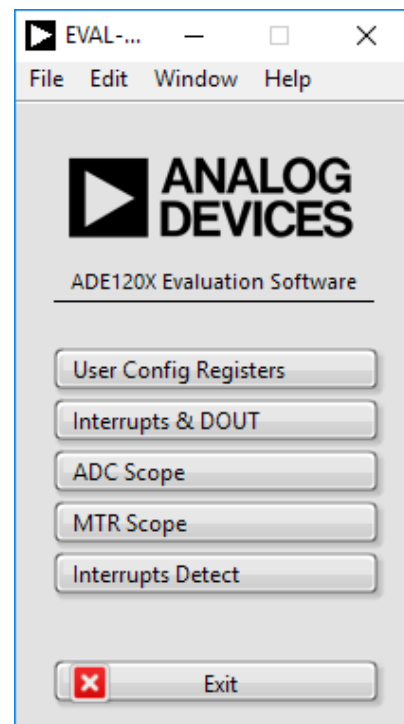
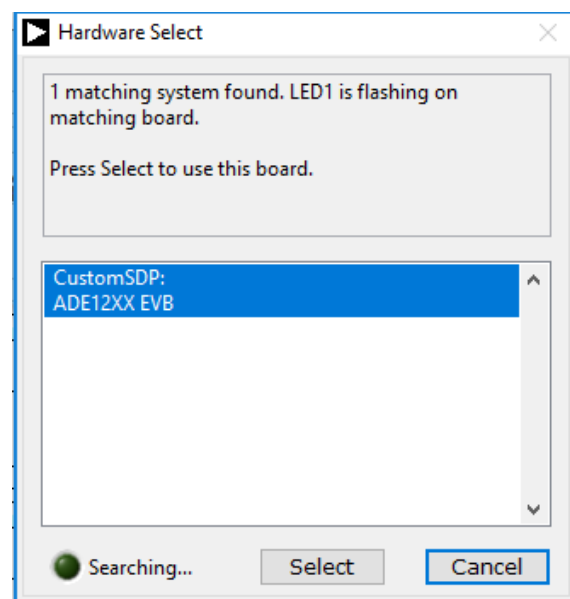
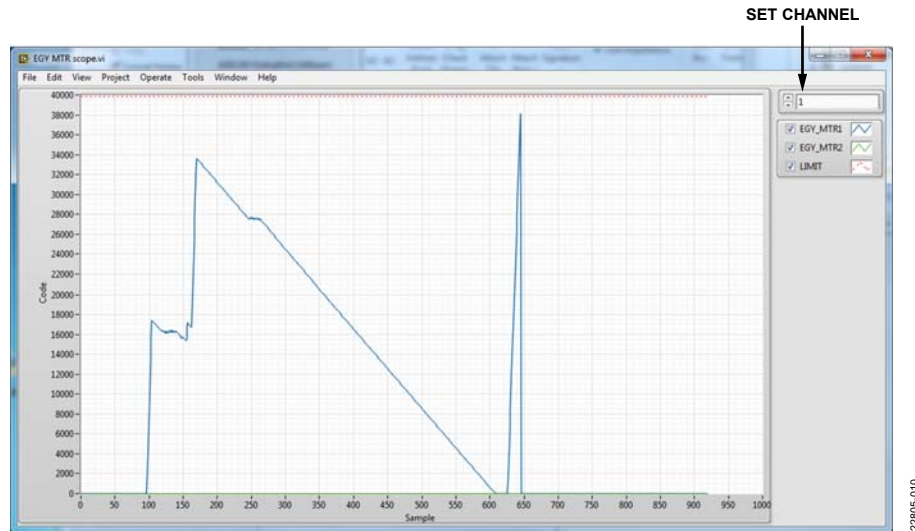
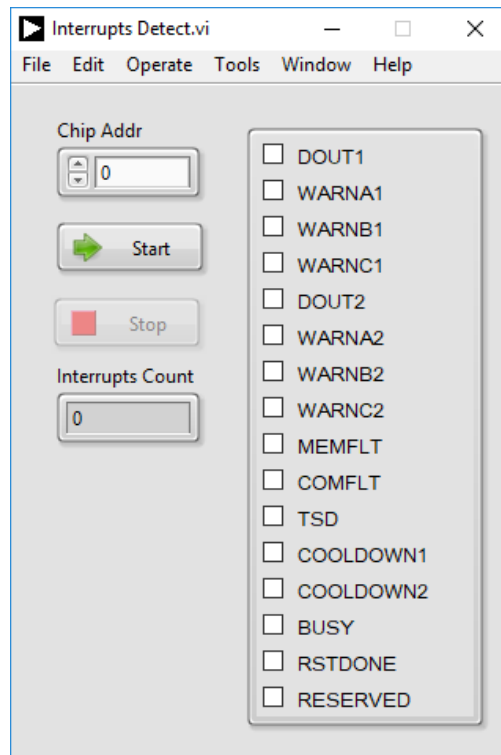

Figure 3. EVAL-ADE120xEBZ Evaluation Software Main Window
Figure 4. Hardware Select Window
Figure 10. EGY MTR Scope Window
Figure 11. Interrupts Detect Window
When the software executable opens, the main EVAL-ADE120xEBZ evaluation software window appears, as shown in Figure 3. When the main window opens for the first time, the evaluation software prompts the user to select the matching hardware, as shown in Figure 4. Click **Select** to proceed.
The main software window (see Figure 3) consists of five options to evaluate a particular functionality of the ADE1201. The five options available for evaluation include the following:
Click the **MTR Scope** option shown in Figure 3 to open the window shown in Figure 10, which displays the values of the EGY_MTR1 register (Address 0x017). In the **ADE1201**, EGY_MTR1 is updated at 100 kSPS. The MTR scope window reads the data continuously at 100 kSPS when data for a single **ADE1201** device is viewed. The user can set the channel, as shown in Figure 10.
Click the **Interrupts Detect** option shown in Figure 3 to open the window shown in Figure 11, which allows the user to capture the occurrence of any one of the fifteen interrupts available. To use the interrupts detect window, select at least one interrupt bit and click **Start**. The **EVAl-ADE120xEBZ evaluation software** continuously counts the interrupts as the interrupts occur, and the window shows the interrupts count. To stop the accumulation of interrupts, click **Stop** (see Figure 11).
2. When the window shown in Figure 4 appears, check if the LED on the SDP-B board is flashing. If the LED is flashing, click **Select**.